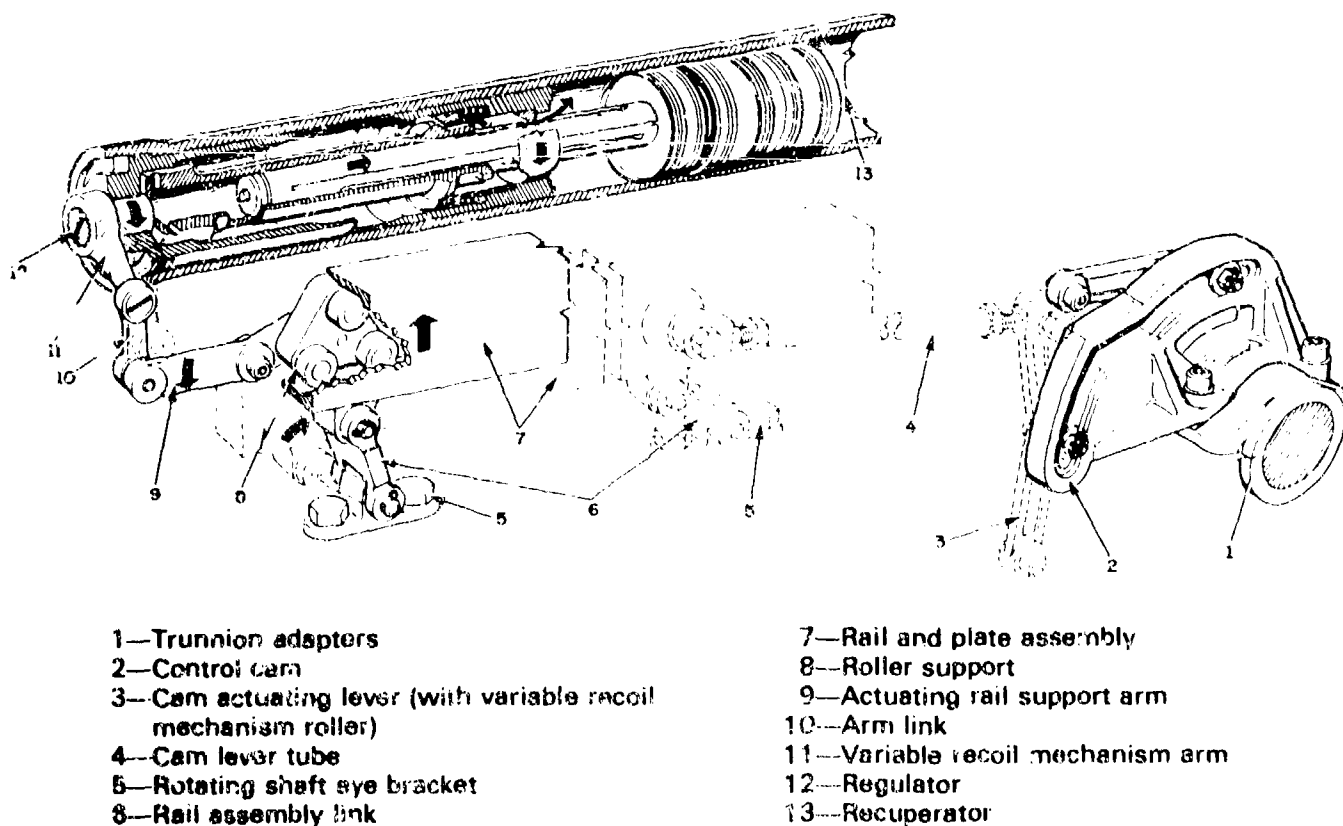

Figure 4-29. Variable recoil actuating mechanism (components).
(4) *Variable recoil actuator.* The variable recoil actuating mechanism (fig 4-29) is a component of the carriage and is composed of a control cam, a cam lever tube, a rail and plate assembly, a rail support arm, a cam actuating lever, an arm link, a variable recoil mechanism arm, and assembly links. The cam is secured to the left trunnion cap and is linked to the rail assembly by an adjustable connecting rod. Two pivoting